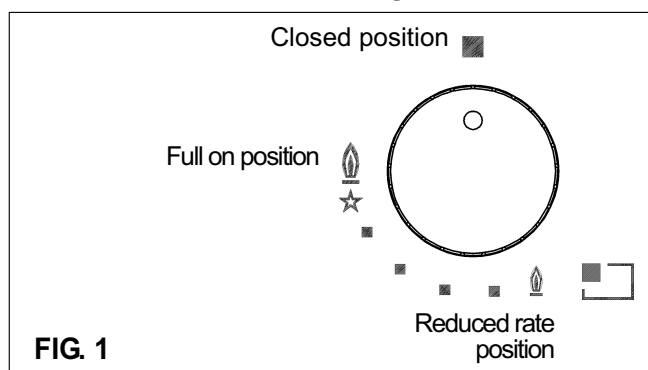

FIG. 1
Push and turn the knob corresponding to the required burner in an anticlockwise direction until it reaches the full on position (large flame fig. 1), then place a lighted match near the burner.
Push and turn the knob corresponding to the required burner in an anticlockwise direction until it reaches the full on position (large flame fig. 1), then depress and release the ignition button.
Push and turn the knob corresponding to the required burner in an anticlockwise direction until it reaches the full on position (large flame fig. 1), then depress the knob.
The knobs of burners equipped with flame failure device must be turned in an anticlockwise direction until they reach the full on position (large flame fig. 1) and come to a stop. Now depress the knob in question and repeat the previously indicated operations.
- When the pan comes to the boil, set the knob to the reduced rate position (small flame fig. 1).
- **Burners with flame failure device may only be ignited when the relative knob has been set to the Full on position (large flame fig. 1).**